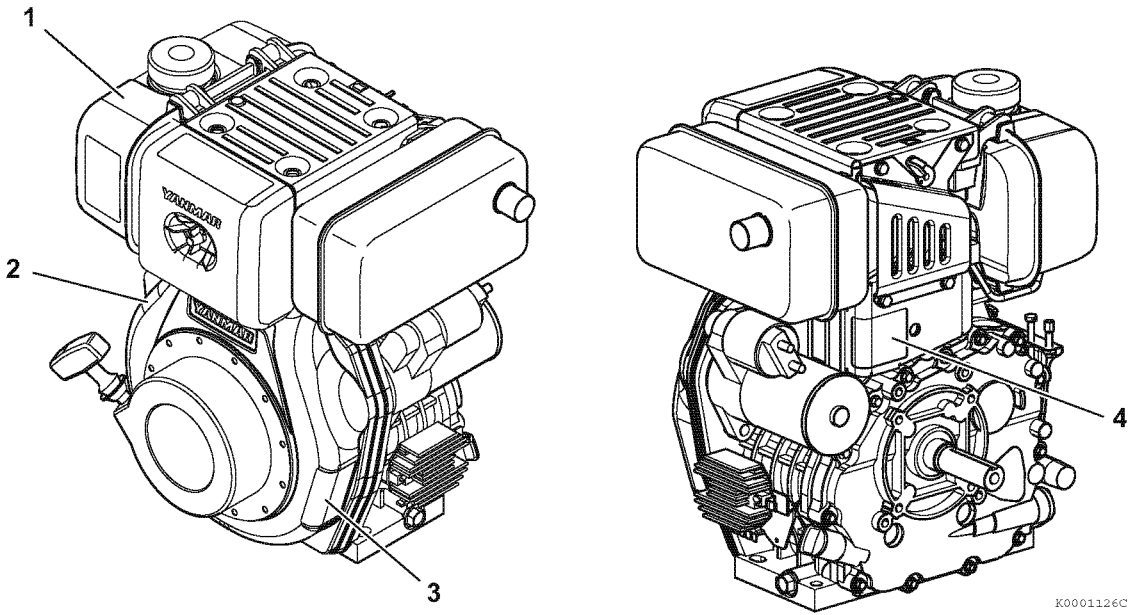

Figure 4-2
Figure 4-2 shows the location of regulatory and safety labels on YANMAR LV series engines.
The typical location of the emission control information label for LV series engines is on the top of the fuel tank (1, Figure 4-2).
- On L48V engines not equipped with a YANMAR fuel tank, the label is located on the flywheel cover (2, Figure 4-2).
- On L70V and L100V engines not equipped with a YANMAR fuel tank, the label is on the flywheel cover (3, Figure 4-2).
Typical location of the engine nameplate is on the engine side cover as shown in (4, Figure 4-2).